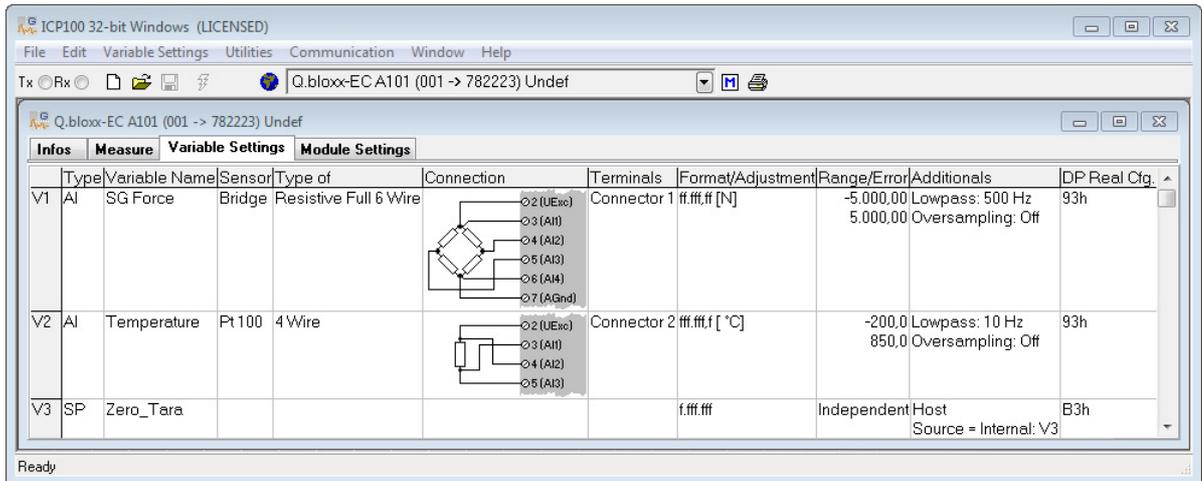

Fig. 5-2 Defining the variable for zero balancing and/or taring.
1. Click in the column **Type** of the first free row (V3 = Variable 3 in Fig. 5-2) or mark the row (click on V3) and use **Variable definition > Type**.
3. Click in the column **Variable name** and allocate a name specifying the purpose of the signal, e.g. Zero_tare (Fig. 5-2).
- Click in the column **Format/balance** of the channel for which zero balancing and/or taring is to be executed, e.g. for the strain-gauge force sensor in Fig. 5-2.